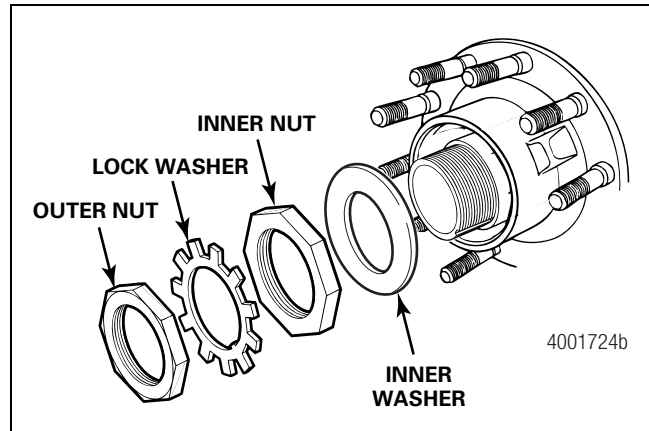

Figure 3.14
8. Remove the outer spindle nut, tabbed lock washer, inner spindle nut (and inner washer, if installed). Always discard the lock washer you removed and install a new one. Do not reinstall a used lock washer. Figure 3.14.